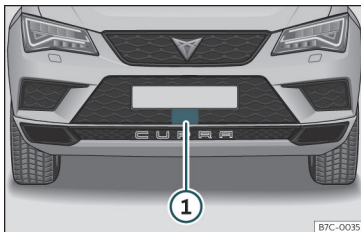

Fig. 207 On the front bumper: radar sensor.
A radar sensor is installed on the front bumper to determine the traffic situation >>> **Fig. 207** ①.